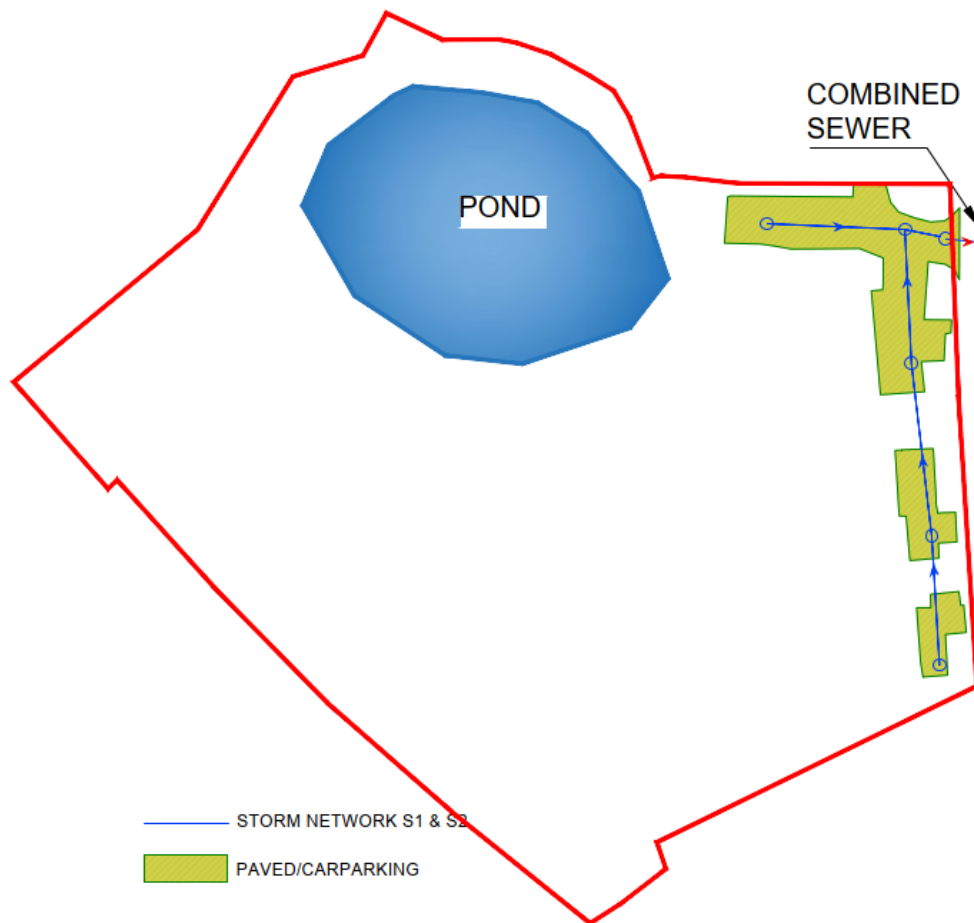

Figure 1.
- (i) taking the runoff from the paved carparking & road areas & discharging to the combined sewer running beneath Fitzroy Park via attenuation and a hydrocarbon interceptor. Refer to Figure 1.